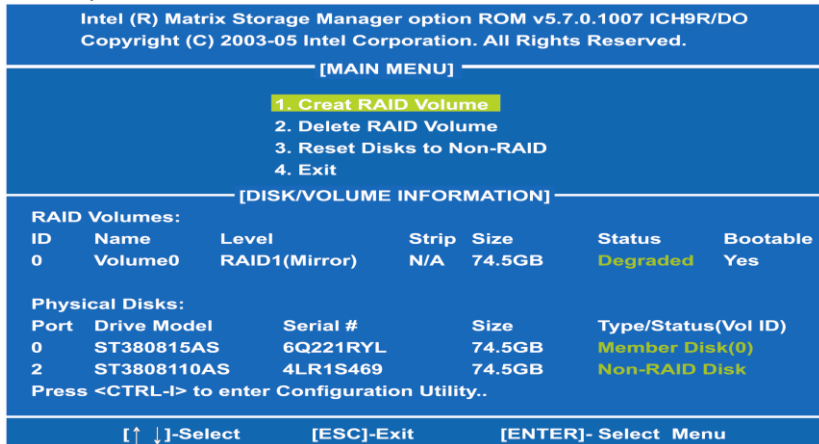

Figure 4
- (3)-2 After you press <CTRL+ I>, the Create RAID Volume screen will appear (as Figure 4). If you want to create a RAID array, select the Create RAID Volume option in the Main Menu and press ENTER.